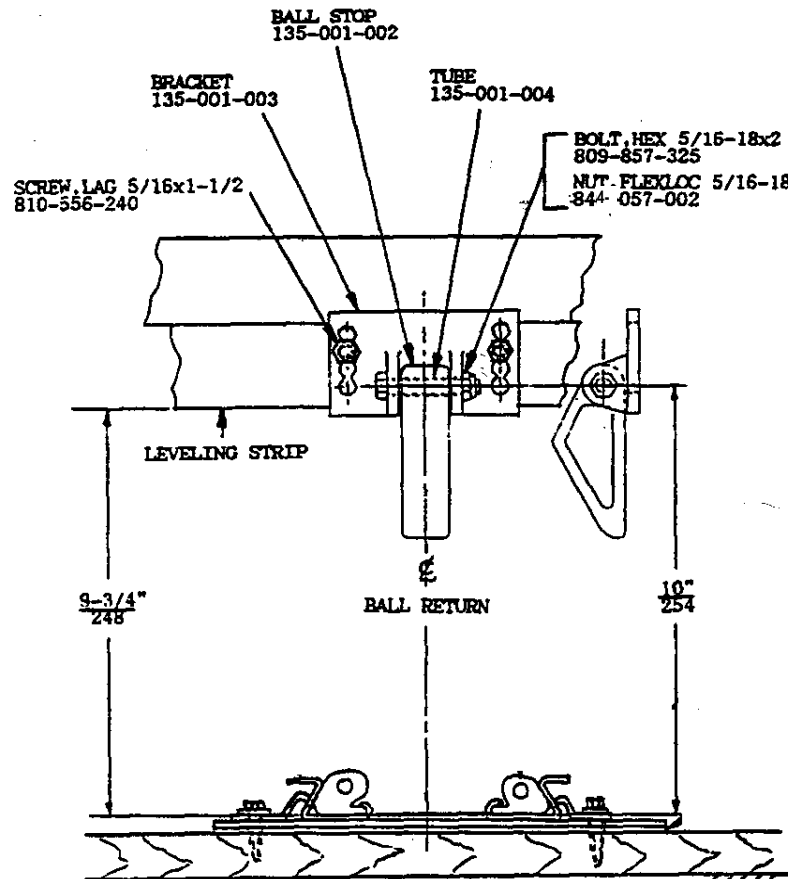

Figure 6, Ball Stop Installation
- Assemble the ball stop as shown in Figure 6. Place the tube through the hole in the plastic stop and then position the stop between the ears of the metal bracket. Secure the plastic stop using the 5/16-18 x 2¼-inch bolt (809-857-365) and lock nut (844-057-002). The longest side of the plastic stop must be placed against the metal bracket and should hang down as shown in Figure 6.